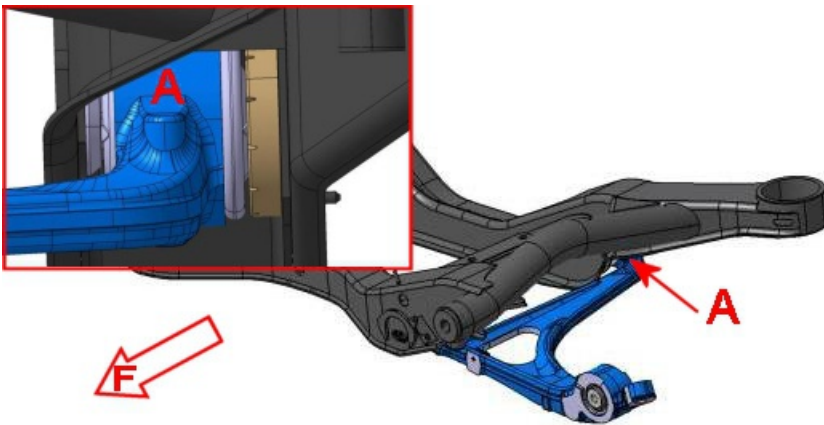
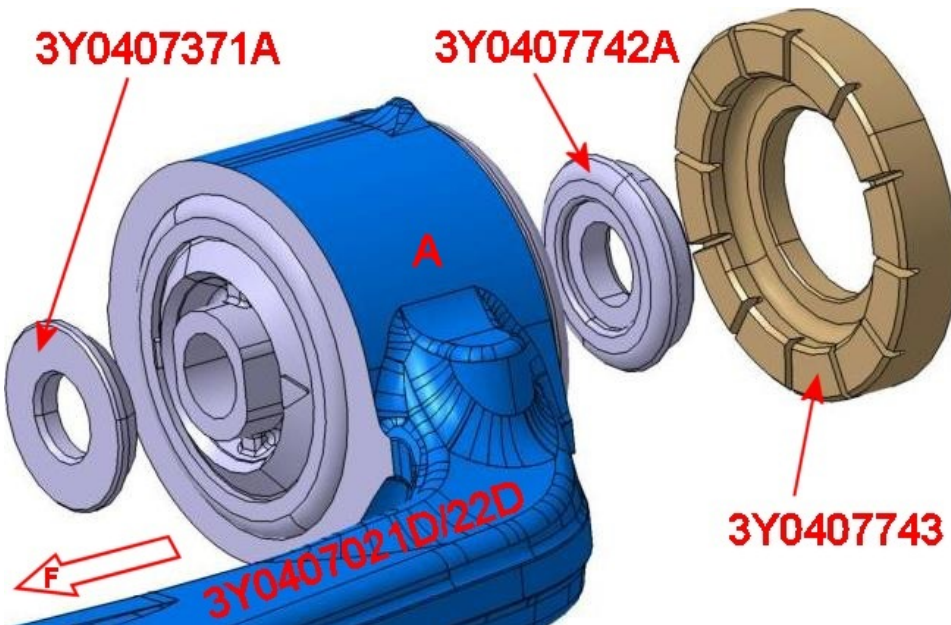

Figure 10
Figure 11
6. During new lower lever fitment incorporate the additional snubber parts into the assembly. These snubber parts are fitted to the rear bush (A figure 10) of both the left and right hand new lower levers. Snubber part number 3Y0407743, steel washer part number 3Y0407371A and steel washer part number 3Y0407742A should be assembled as detailed in figure 11. Arrow F points to front of vehicle. All other information relating to fitting the lower levers including torque tightening figures are unchanged and are therefore as detailed in the relevant section of the workshop manual.